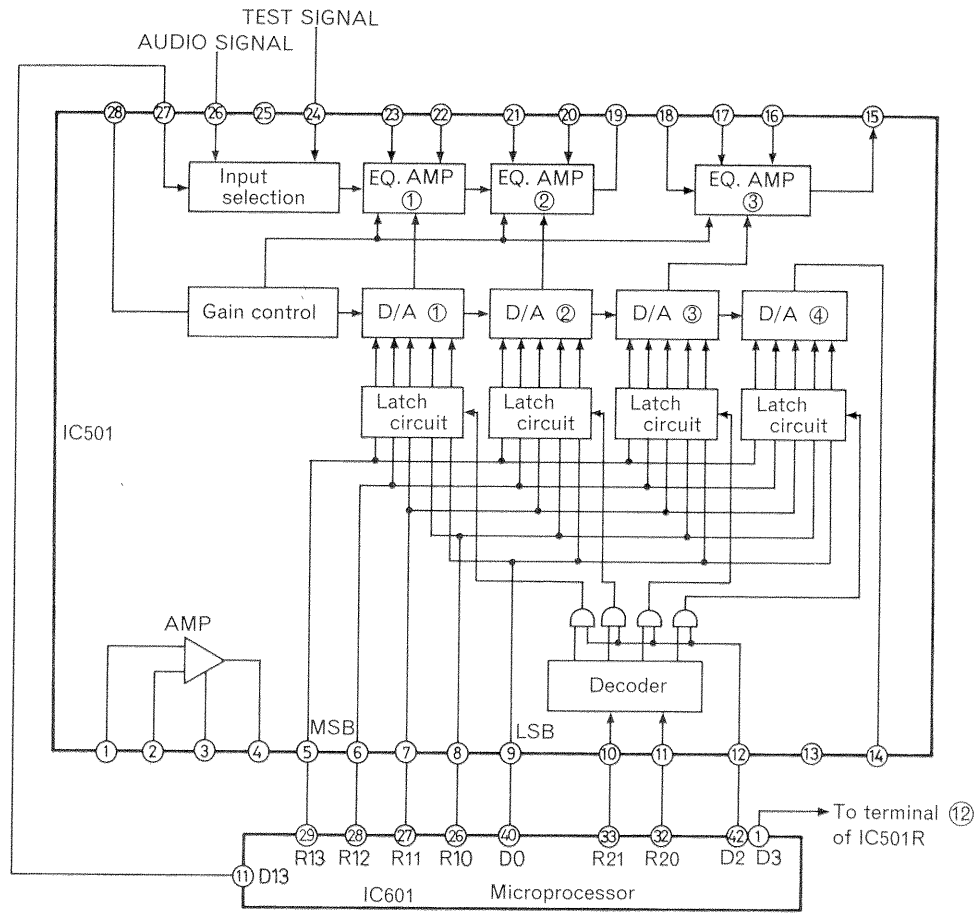

Fig. 9
A single IC is used for the discrete low/medium/high frequency EQ circuits, latch circuits, MPX circuits, the D/A converters for REC bias control/PLAY gain detection and Amp. for playback output amplification used in the D-5500. Fig. 9 shows the internal structure of the IC. The output signal of the test oscillation circuit is input to terminal ⑭, and audio signal of line-in, mic, etc. to terminal ⑮.
Terminal ⑳ of IC501 shown in Figs. 9 & 10 sets the output level change during single step variation of overall variation amount (32 steps) of the control data. To reduce selection noise generated when data is changed due to changing the tape selector, etc., Q602 is cut off by the selection noise preventive control output (Terminal ③ ) of the microprocessor to minimize the voltage drop at both ends of R902 and the output level change in a single step until the tape position control data is transferred. After the data transfer is complete, the voltage is gradually increased to the set voltage for a single step variation by means of the charging time constant of C606.